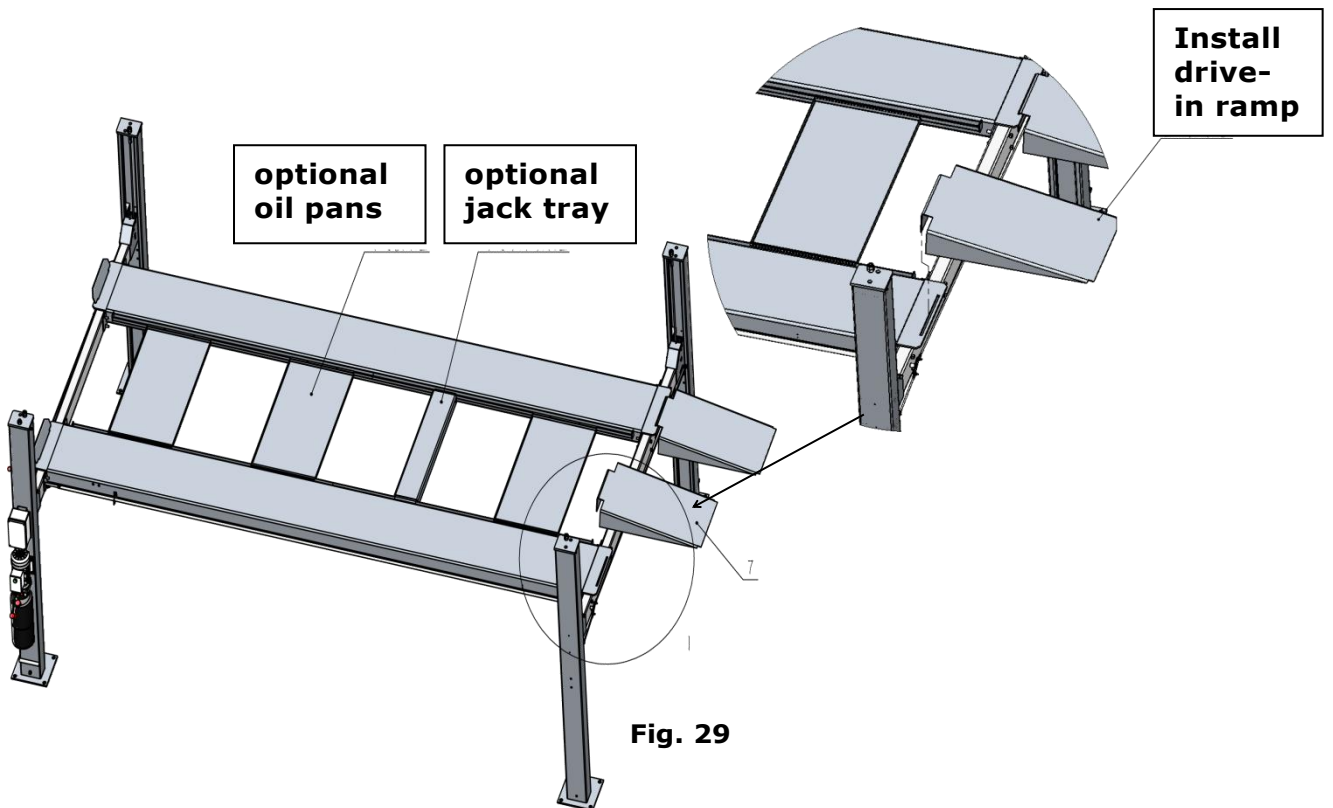

Fig. 29
N. Install drive-in ramp, optional jack tray and optional oil pans (See Fig. 29).